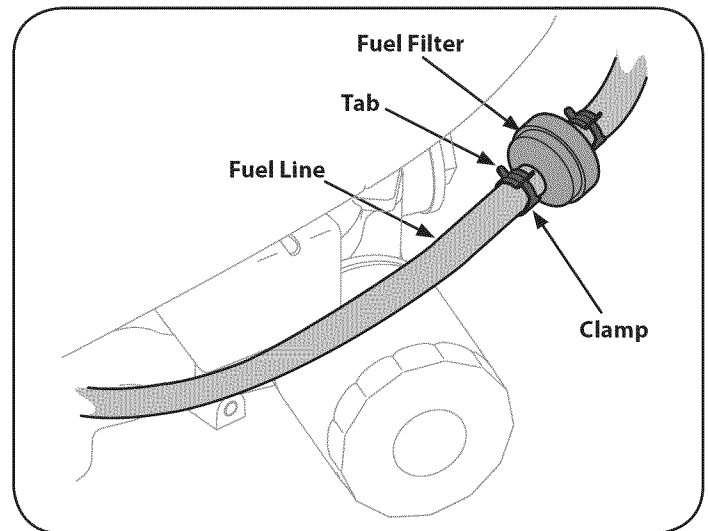

Figure 12
1. Locate the fuel filter, see Figure 12, which is routed on the left side of the engine between the fuel tank and the carburetor, and may be attached to the engine with a tie strap. Cut the tie strap, if present, then pinch the tabs on the in-line clamp on the fuel filter with a pair of pliers, slide the clamp up the fuel line. Pull the fuel line free from the filter and place the open end of the line into an approved container to drain the fuel.
1. Use pliers to squeeze the tabs on the other clamp (the out-line side of the fuel filter), then slide the clamp away from the fuel filter. Twist and pull the fuel line off of the fuel filter. See Figure 12.